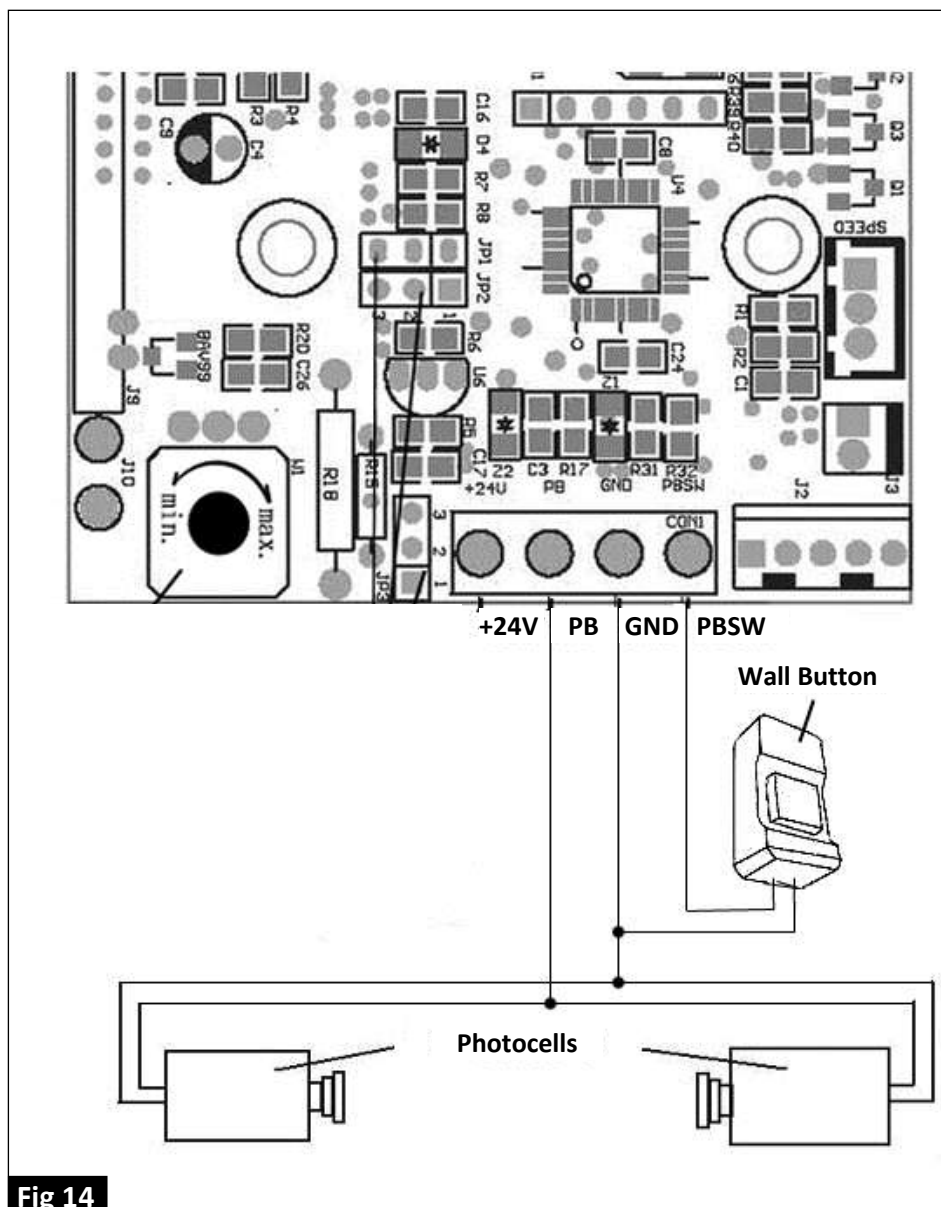

Fig 13
- 16.1 Press and hold the "Set" button until "P1" is displayed on the LED Screen (Fig.13)